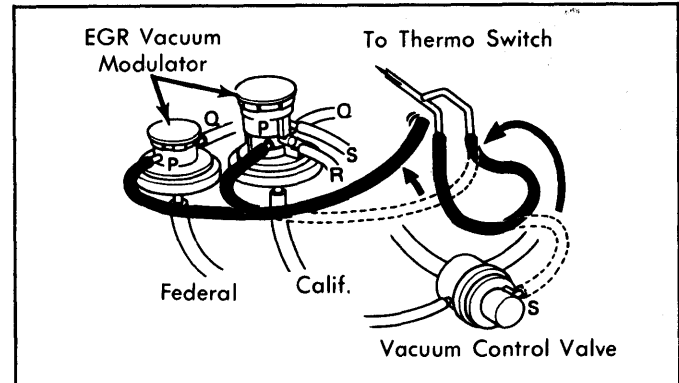

Fig. 8: Land Cruiser Fast Idle RPM Adjustment
2) Use a vacuum hose to connect VCV and EGR pipes going to thermo switch. See Fig. 8. Start engine and adjust engine speed with fast idle screw. Engine should return to normal idle when choke knob is pushed in fully. Reconnect all hoses.